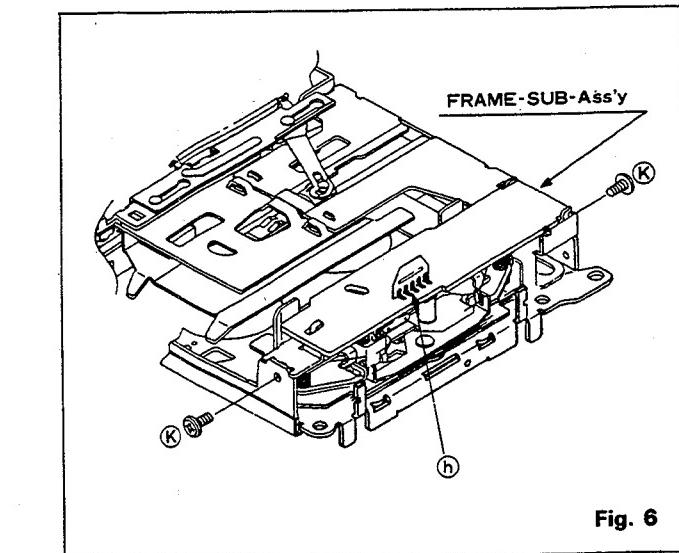

Fig. 6
- (1) Remove solder from 5 points at Section ⑰. (Refer to Fig. 6).
- (2) Loosen Screws ⑯ (2 pcs.) to remove the frame sub ass'y.